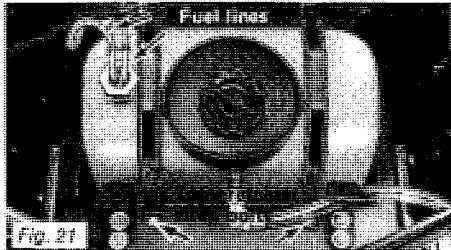

Fig. 21
1. Disconnect fuel lines by pulling plastic lines away from tank. (See Fig. 21).